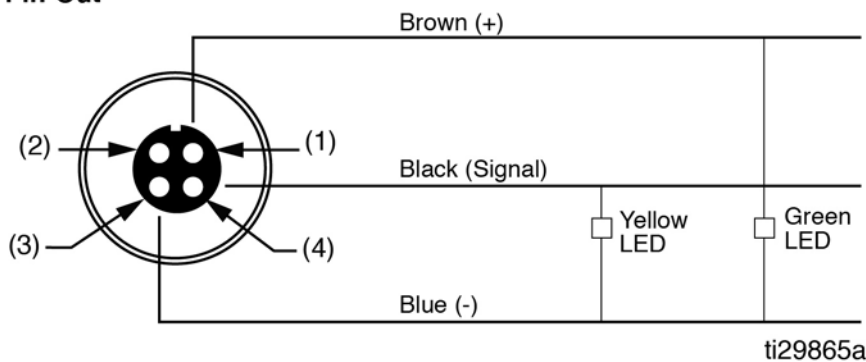

FIG. 1
2. Connect flying leads. Refer to FIG. 1.